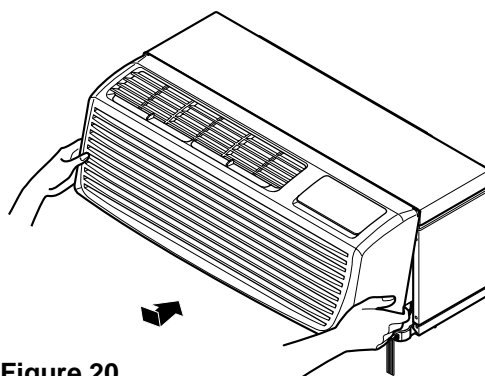

Figure 20
4. Reinstall the front grille by hooking the top over the unit top, then pushing it in at the bottom. (See Fig. 20)